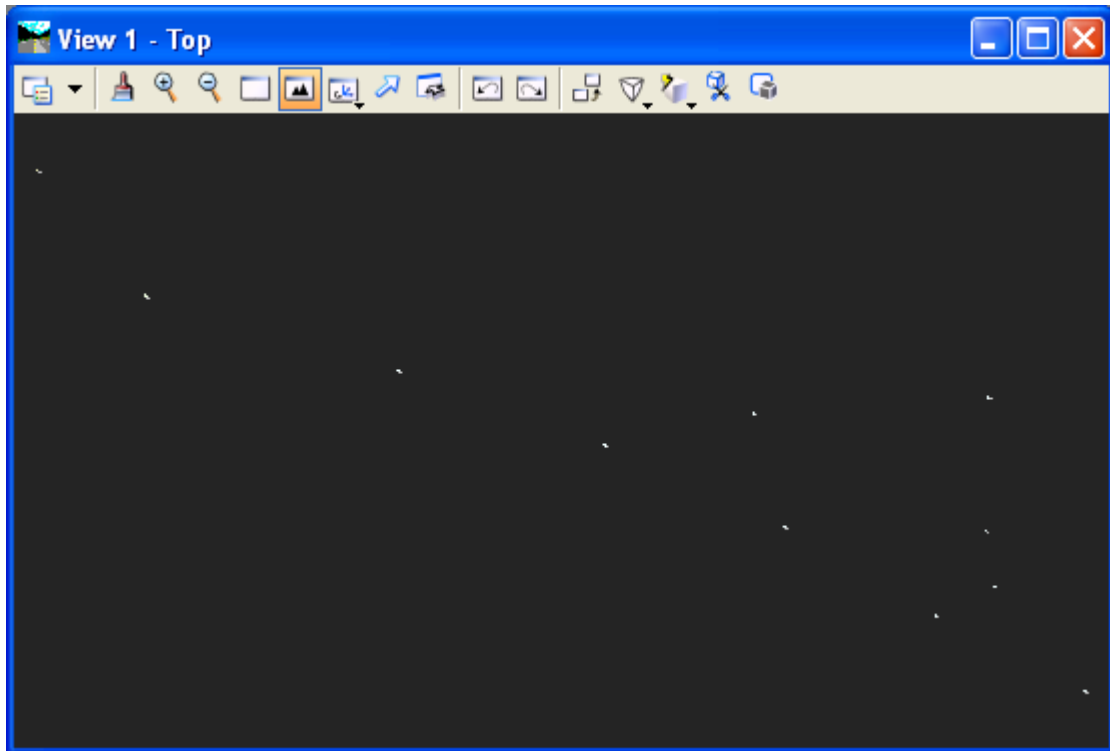

Figure 2-3 MicroStation View of Traverse Points
- F. Use the MicroStation **Fit View** command as shown in Figure 2-3. Notice the Traverse Points are displayed.